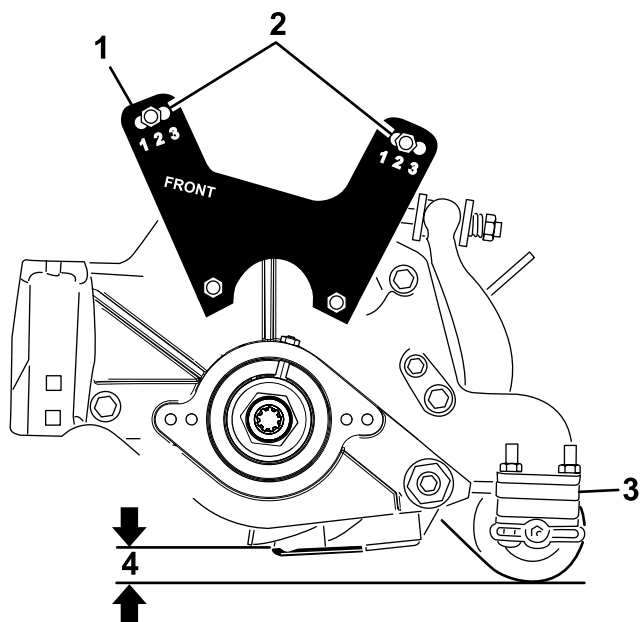

Figure 21
- Lower the cutting unit to the floor and measure the distance from the floor to the top of the bedknife, as shown in Figure 21